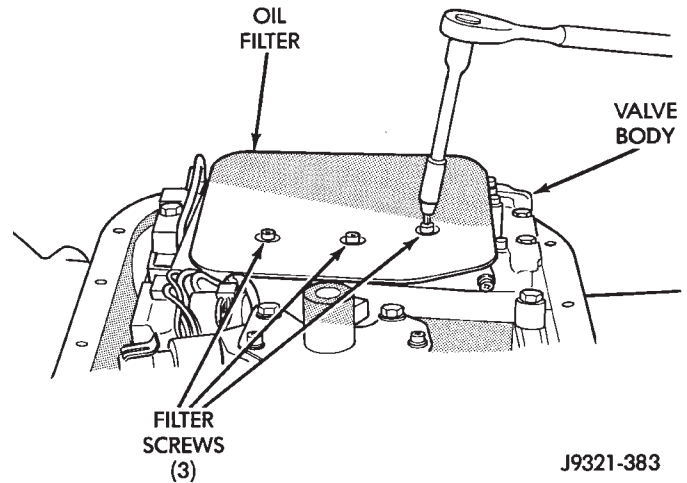

Fig. 6 Oil Filter Removal/Installation
(9) Place transmission in horizontal position.
(10) Remove transmission oil pan and gasket.
(11) Remove oil filter from valve body (Fig. 6). Keep filter screws separate from other valve body screws. Filter screws are longer and should be kept with filter.